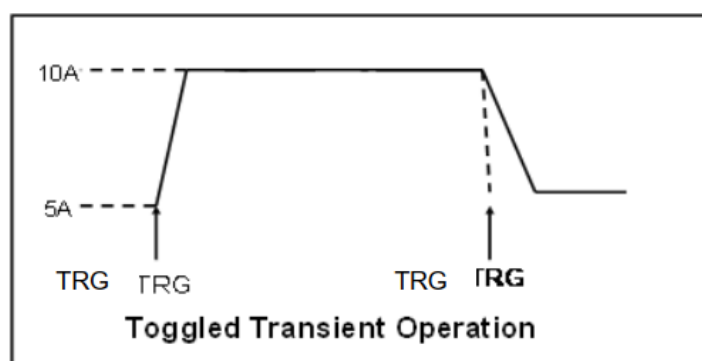

Figure 7-2-4 Toggled Transient Operation
3. Toggle mode: the electronic load will toggle once between the high and low values for each trigger. At this time, there is no need to set the time for both high and low. And it will only toggle to the other state after each trigger is performed. Toggled transient operation is shown in Figure 7-2-4.